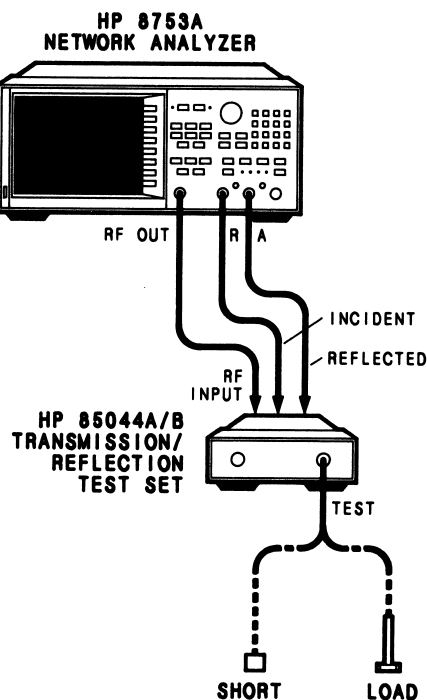

Figure 4-4. Source Match Test Setup.
1. Connect the test set to the network analyzer as shown in Figure 4-4, turn on the HP 8753A and press **[PRESET]**. Allow 30 minutes for warm-up.